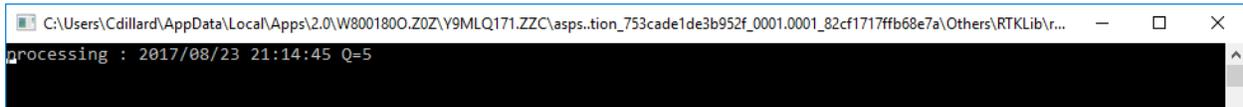

Figure 22 - Processing - Q5 Solution
- c. Third, GNSS trajectory is computed. Sometimes, Global Navigation Satellite Systems (GNSS) can lose signal strength during a flight, which can result in poor positional information. This step helps to smooth out positional data when lose occurs. During this step a command window will open (Figure 22). It may take a few seconds before the process starts to run. The window will close automatically once the process has completed.